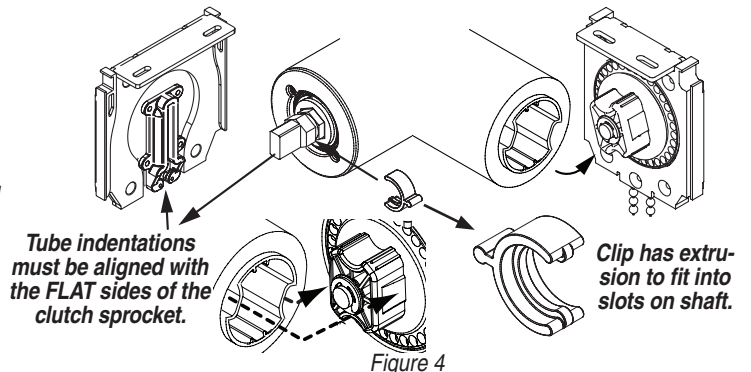

Figure 4
- ⑥ Install the Top (take-up) Roller Assembly (see Fig. 4). Install tube onto